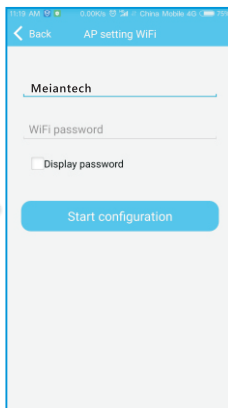

Fig. 5-12
Step 2: Enter the available WiFi name and password in the hotspot setting WiFi interface (Fig. 5-12), click to start configuration, and the pop-up window prompts the operation steps. (Fig. 5-13)